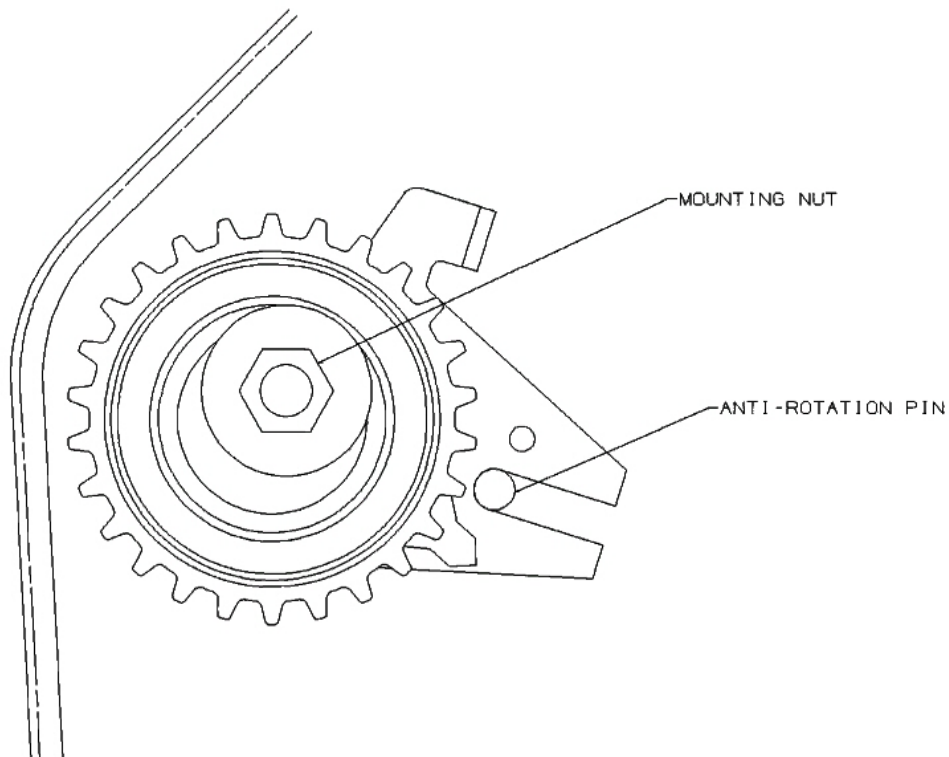

Figure 2: Belt Installation Position
5. Slide the tensioner to the farthest right for easier routing of the timing belt and hand tighten the M8 Mounting Nut (See Figure 2).